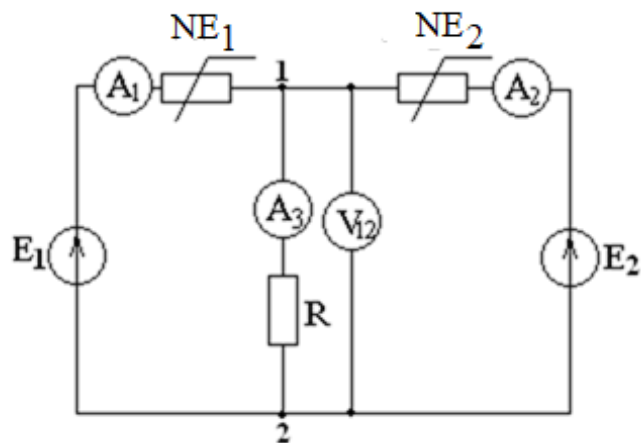

Figure 8.4
- 7) Give an example of the graphical calculation method of the branched electric circuit with two EMF sources and NE (figure 8.4).
8.3.5 Make the graphical calculation for the electrical circuit (figure 8.4, p. 8.2.4), write down the results into table 8.5 (in the row - “graphical calculation”), compare the calculated values with the experimental ones.